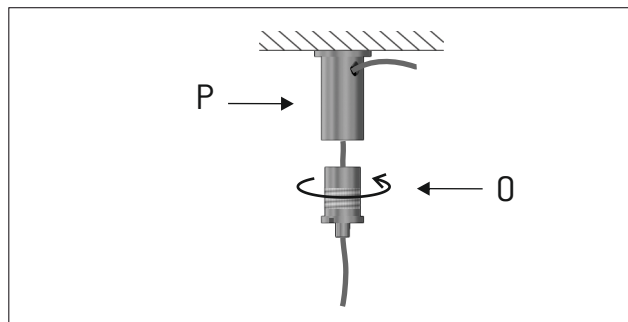

Figure 17
17 - Insert the cables through the hole in the gripper support (P). Screw back the gripper (O) to the gripper support (P). Adjust the cable to the right tension and cut any leftover cable. Figure 17.